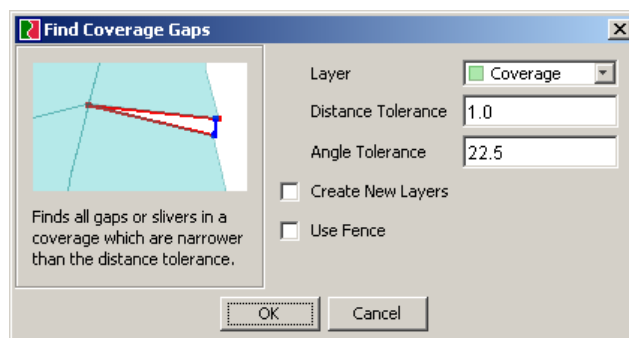

Figure 3 - Find Coverage Gaps dialog
- In the **Find Coverage Gap** dialog (see Figure 3 below) select the layer to work on, and choose an appropriate **Distance Tolerance**. (A good idea is to choose a small tolerance to begin with and then make the tolerance larger in subsequent runs to find larger errors). The **Angle Tolerance** is less critical – the default value of 22.5 degrees is almost always sufficient.